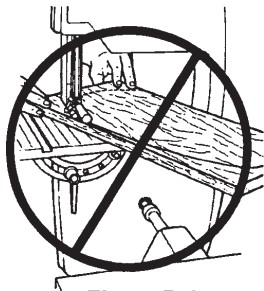
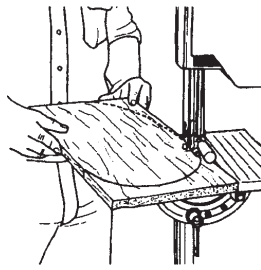

Figure B-2
Figure B-3
2. Know where you'll put your hands as you feed the wood into the blade; make sure the work won't be blocked by the Bandsaw frame, as demonstrated in Fig. B-2. Fig. B-3 shows the correct cutting procedure.